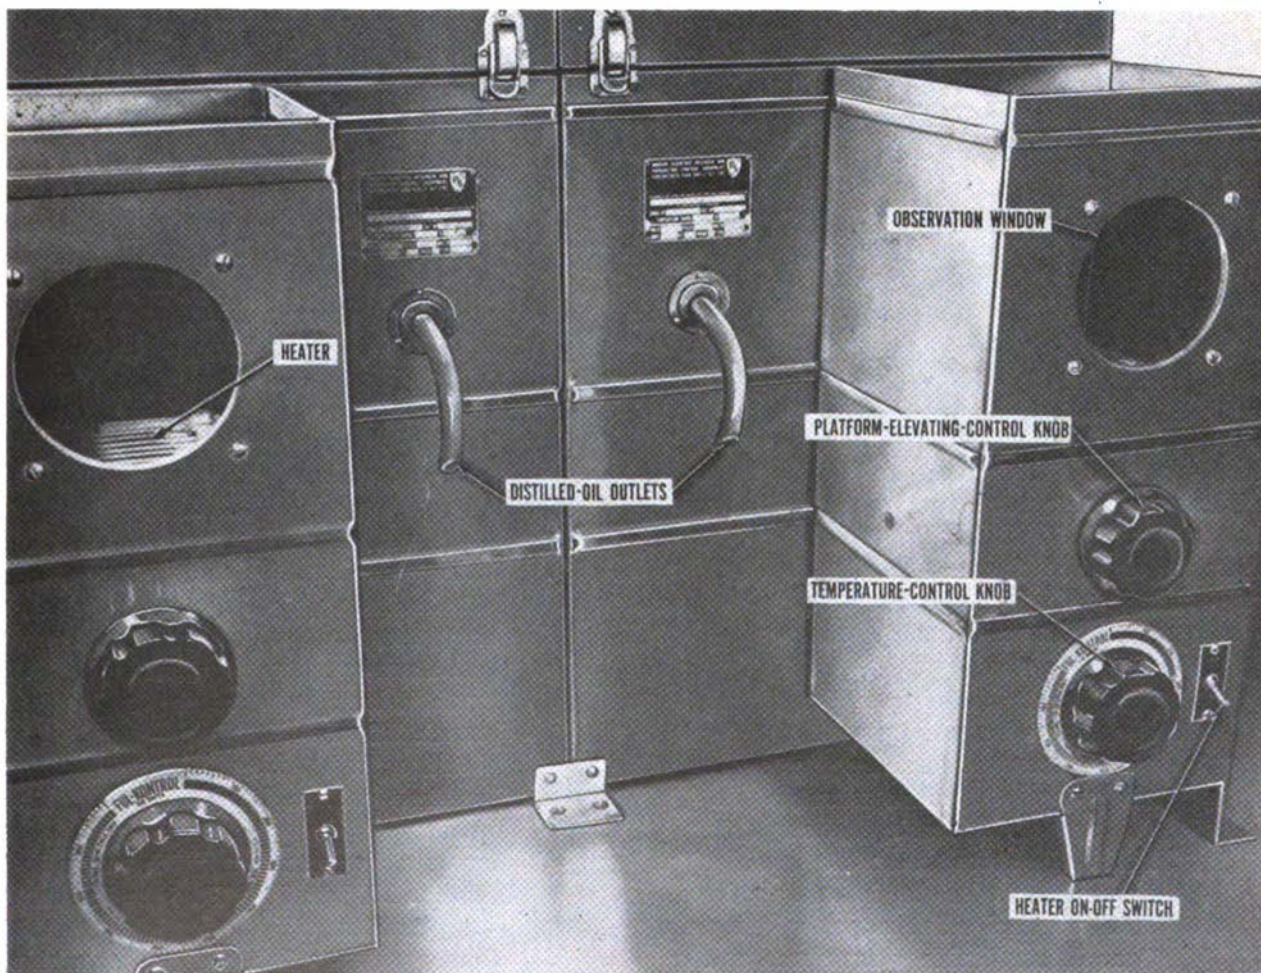

Figure 49. Distillation units.
- (1) Fill bath with water to desired level.
- (2) Insert suitable thermometer in space provided at top of bath.
- (3) Push toggle switch to ON position.
- (4) Set temperature-control knob for desired temperature. After determining reference point, adjust knob to specific temperature required.
a. Description. Two petroleum distillation units (fig. 49), used for distillation of petroleum products, are located above drawers DD-3 and DC-1. Each unit consists of a shield assembly and a condenser assembly. The shield and condenser exteriors are constructed of stainless steel; the condenser interior of copper insulated with a 1-inch thickness of fiberglass. The ice-refrigerated condenser is equipped with a drain and overflow outlet, and distilled-oil outlet. The shield incloses a 750-watt heater with autotransformer, 2 porcelain refractory blocks, observation window, an elevating device to allow proper alinement of distillation flask to condenser tube, a temperature-control assembly, and an ON-OFF toggle switch. A wood block is provided for supporting cooling jar and graduate. Circuit breaker switch 3 controls current to the distillation units.
- (1) Push toggle switch to ON position.
- (2) Turn temperature-control knob clockwise to increase temperature; counterclockwise to decrease temperature.
- (3) To operate elevating control, turn knob clockwise to raise platform; counterclockwise to lower platform. Total vertical adjustment is $\frac{3}{4}$ inch.
- (4) Consult applicable petroleum testing references for detailed descriptions of